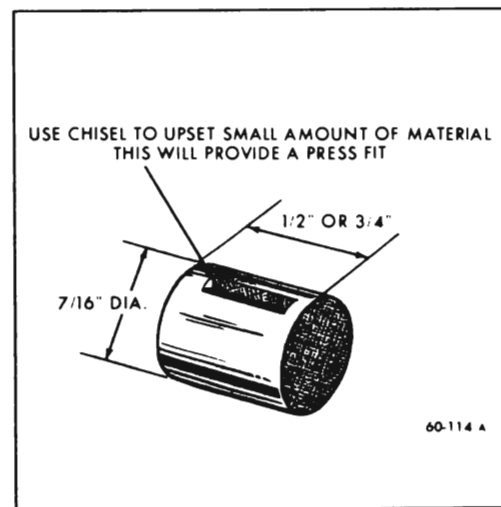

Figure 60-260--Harmonic Balancer - Balance Weight Details
e. Cut a piece of 7/16" drill rod approximately 1/2" long. Use a chisel, upset a small amount of material on the side of the piece of drill rod. See Figure 60-260.